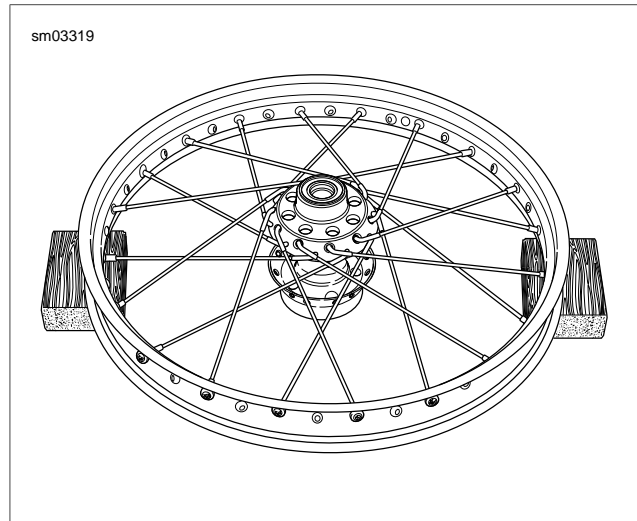

Figure 2-48. Upper Row Spokes Completed
- See Figure 2-48. Install the remaining nine upper row spokes into every fourth remaining hole above the rim centerline. This completes spoke installation on this side.